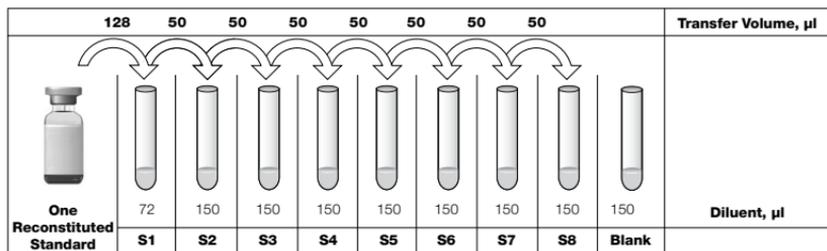

Fig. 3. Preparing a fourfold dilution series with a single reconstituted standard.
2. Add the specified volume of standard diluent to each tube (Figure 3).
4. Continue with 1:4 (fourfold) serial dilutions from tube S2 to S8 as shown in Figure 3. Use reconstituted and diluted standards immediately. Do not freeze for future use.
5. Continue with 1:4 serial dilutions as shown in Figure 3. Use reconstituted and diluted standards immediately. Do not freeze for future use.